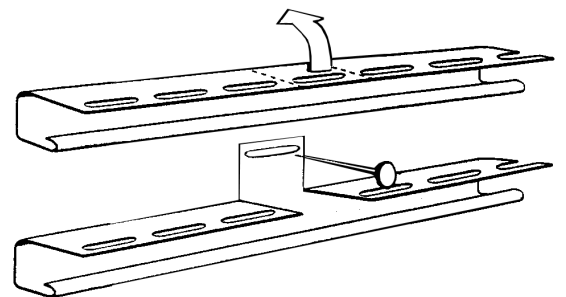

Figure 65
- If no soffit receiver is available the J-channel can be modified to create an F-receiver (Figure 65).
- Simply cut slots in the nail flange area where it would be nailed to the wall (Figure 65). After cutting the nail flange, bend the flange back and nail it to the wall.